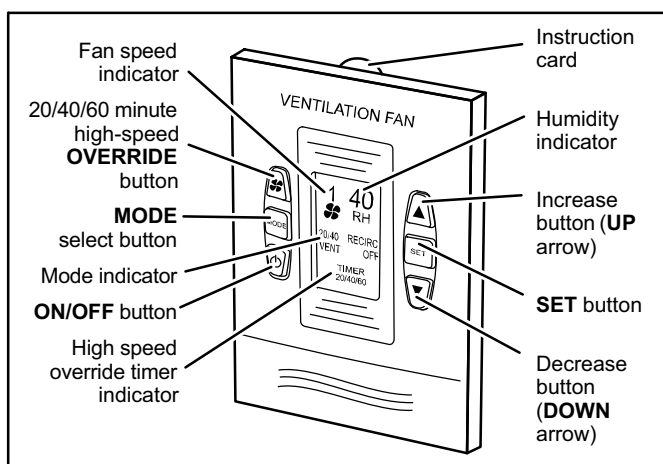

Figure 4. Digital 2-Speed/4-Mode Control (Y2171)
**HRV -GDX (Canada only) units come with Y2171 Digital 2-Speed/4-Mode Control (see figure 4, Page 10).